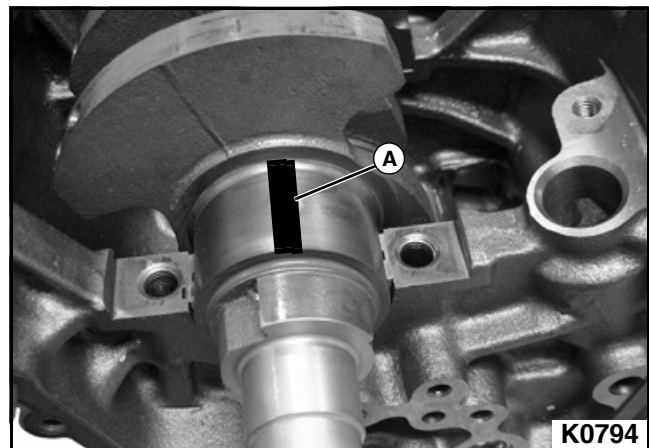

Figure 3-201
1. Check oil clearance between crankshaft main journal and main bearing using a plastic indicator strip (A). **See Figure 3-201.**